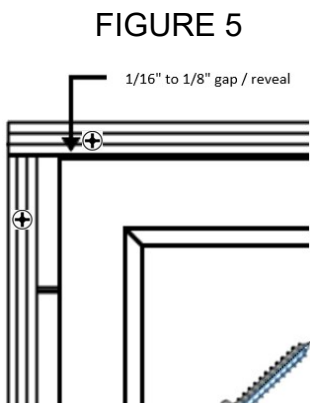
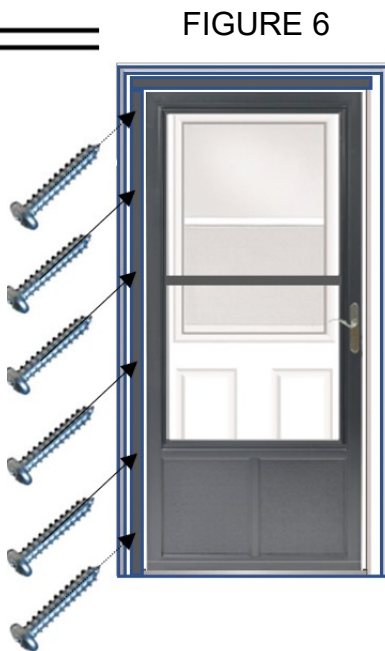
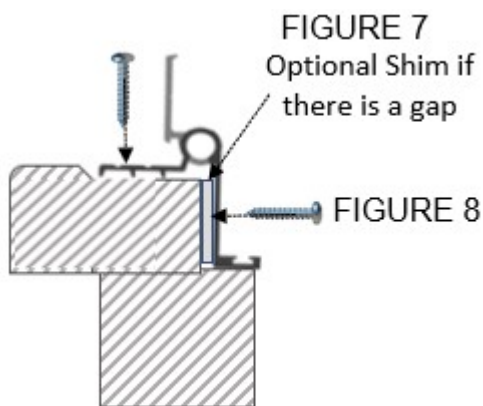

FIGURE 5
FIGURE 6
FIGURE 7
9. **INSTALLING DOOR IN OPENING:** Place the door with the hinge rail attached into the door opening. Line the top of the hinge rail with the edge of the drip cap. You should see a 1/16" to 1/8" gap / reveal (Figure 5) between the top of the door and the bottom of the drip cap if the hinge rail is attached properly to the door. Once you verify this gap and ensure the hinge rail lines up with the edge of the drip cap, install one #10 1 1/4" screw through the top hole of the hinge rail above the top hinge of the door (Figure 6). Next you want to check the door with a level to ensure the door is hanging straight. Additionally check that the gap between the door and the drip cap is consistent all the way across the top. Once you are sure the door is where you want it, install another #10 1 1/4" screw through the bottom hole of the hinge rail. **NOTE:** If you find that there is a gap between the brickmold and the hinge rail, it is wise to fill this space with a wood shim to give the leg of the hinge rail something to sit against. See (Figure 7). Check the squareness of the door with a level one more time and ensure you like the way it swings when you open it. Once you are satisfied, install the other four #10 1 1/4" screws in the face of the latch rail, then open the door and install four more in the holes above each hinge (FIGURE 8). **NOTE: DO NOT OVER TIGHTEN THE SCREWS.** It could damage the paint on the hinge rail.